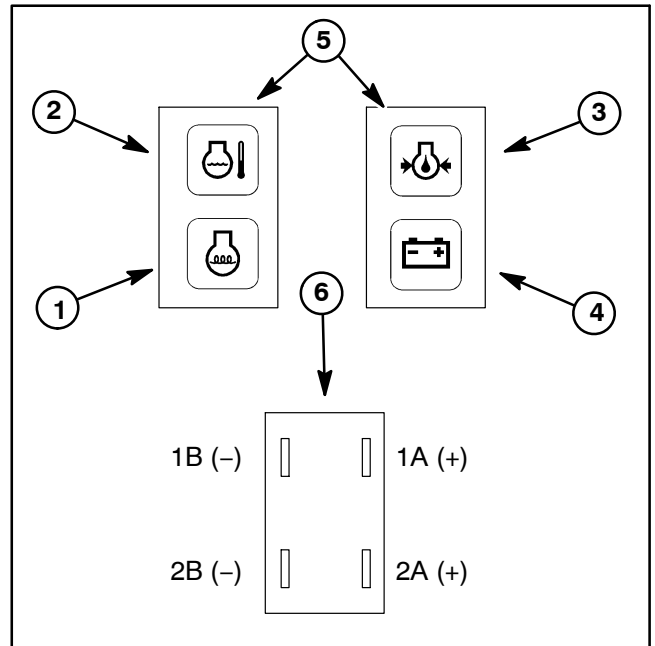

Figure 11
2. Apply 12 VDC to terminals 1A and 2A (Fig. 11) and ground terminals 1B and 2B (Fig. 11).